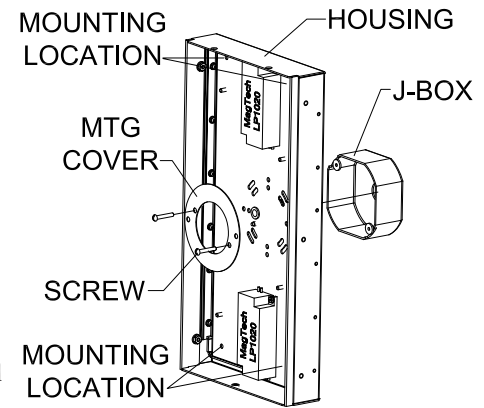

Figure 3
Step 5 Remove thumb screws from the dimming module bracket (if applicable) and lift away from the center mounting holes. Lift electrical housing into position over the junction box. Orient the cover ring so the holes line up with the housing and the threaded holes in the junction box. Attach fixture housing to the outlet box using screws provided. (See Figures 3 and 4)
Note: Due to the weight of this fixture it is recommended to use additional hardware and attach the fixture to the wall at the four additional mounting locations. (See Figure 3)